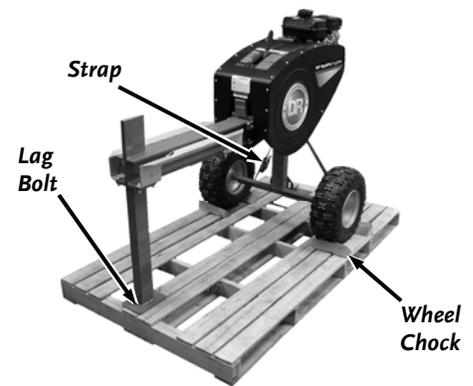

Figure 4
- Remove the Lag bolt that secures the Front Leg to the Pallet with a 9/16" Wrench (**Figure 4**).